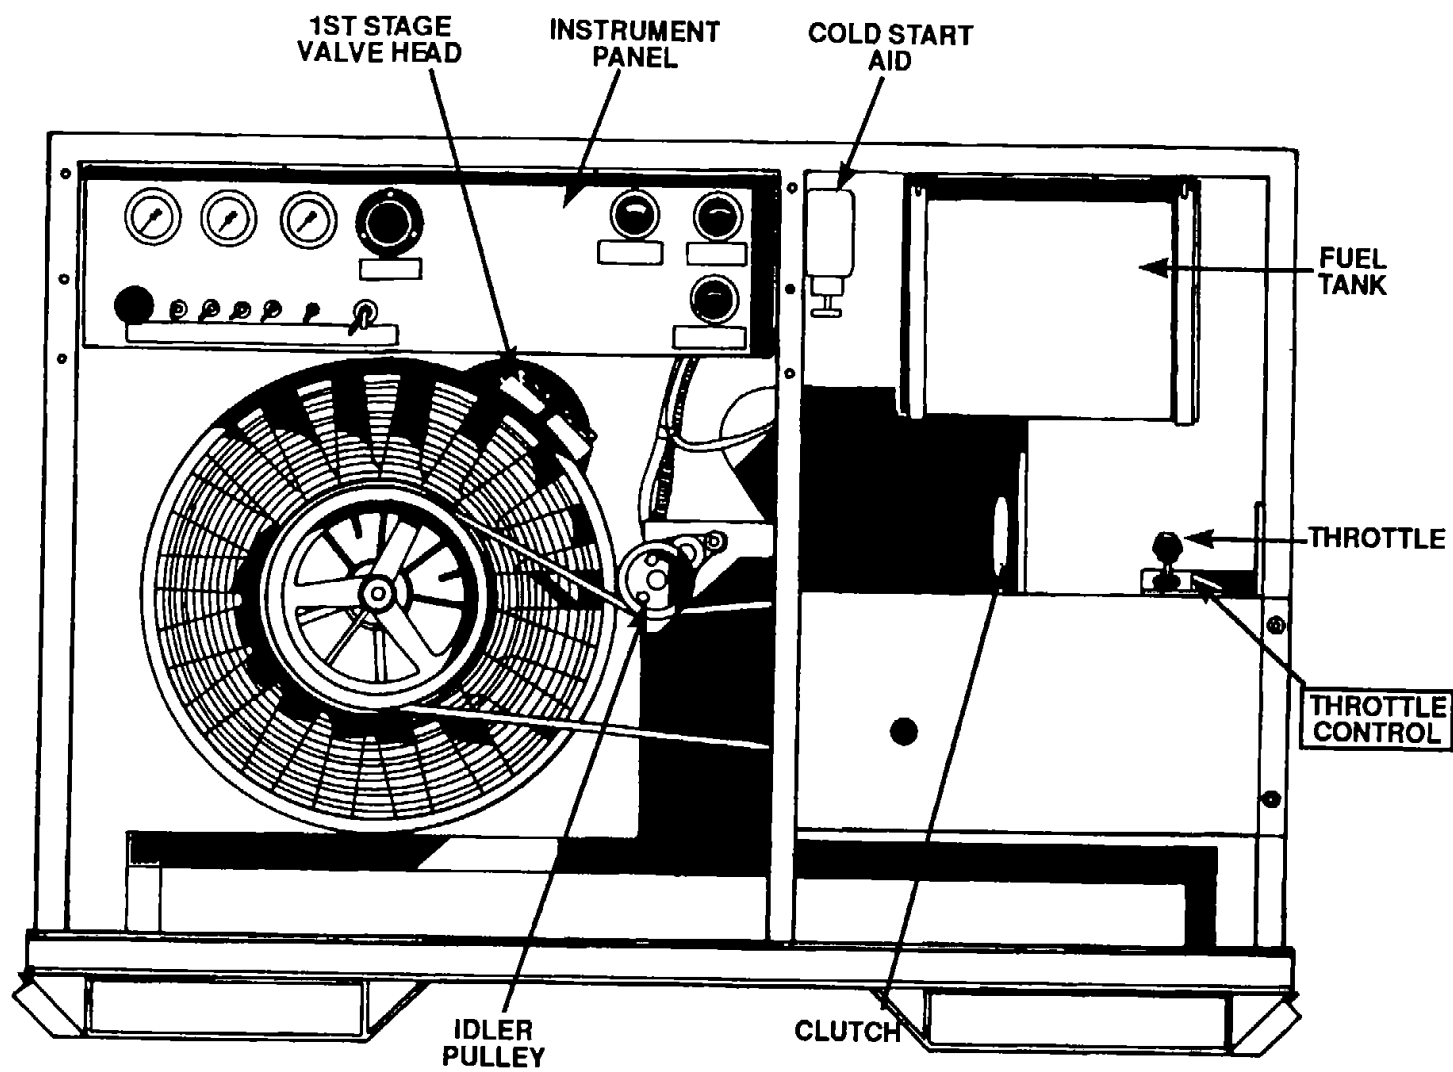

Figure 1-1. K-20, Front View
1-2. PURPOSE. The purpose of the compressor unit (figure 1-1) is to provide purified high-pressure compressed air breathing for charging Type I and Type II manifold servicing units.
1-7 EQUIPMENT CHARACTERISTICS, CAPABILITIES, AND FEATURES. Equipment characteristics, capabilities, and features of the model K-20 consists of a high-pressure compressor coupled to a two-cylinder diesel connected by a V-belt drive (figures 1-1 and 1-2). The unit includes an instrument panel, fuel tank, purification system, and a skid-mounted frame. The K-20 is capable of providing 20 cfm (cubic feet per minute) of free air compressed to 5000 psi (pounds per square inch). The unit can be operated in temperatures ranging from -25 to +125°F.
- c. Instrument Panel. The instrument panel is located on the front side of the unit (figure 1-1) on antivibration shocks. The rear of the panel is accessible by removing five screws from the back plate.
- d. Fuel Tank. The fuel tank is located above the engine, toward the front (figure 1-1). It has a 13gal (gallon) capacity with no reserve; it is sufficient for eight hours of continuous operation.